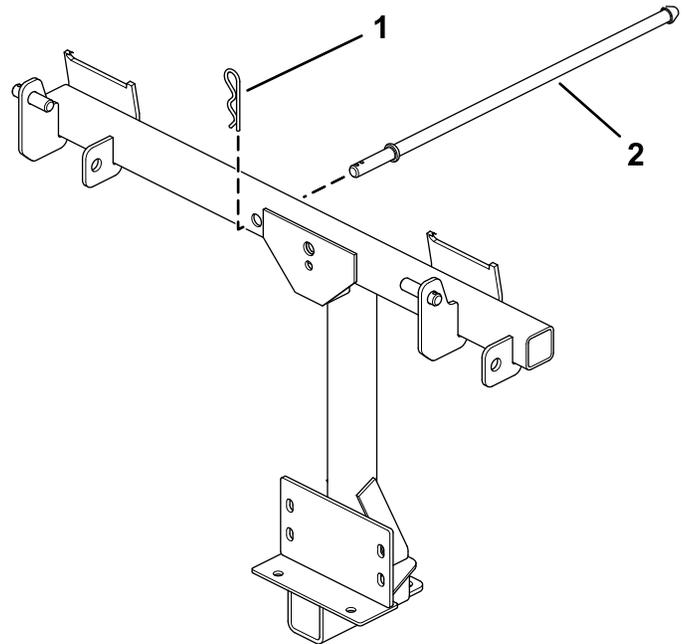

**Figure 17**
- 7. Install the bent, flared end of a rod into the keyed slot in the left side of the machine frame, and move the rod rearward to seat it in the frame (Figure 17).
8. Insert the bent ends of the rods into the attachment mount as shown in Figure 17 and secure the end of each rod with a washer and hairpin cotter.